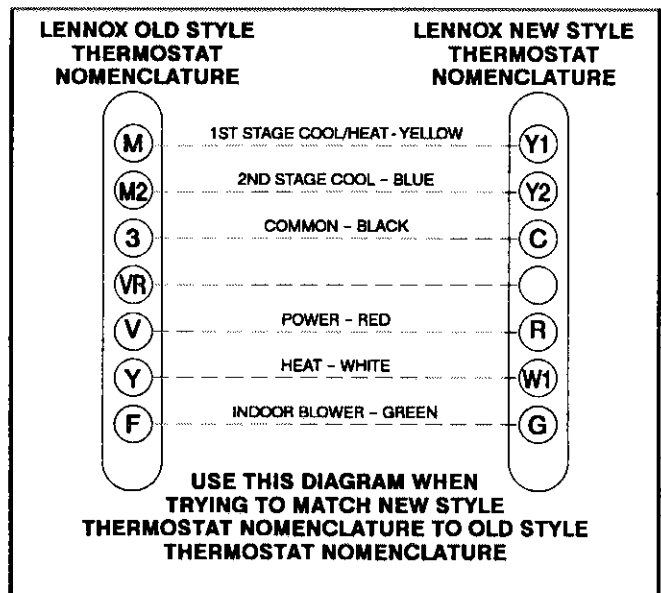

FIGURE 34
- 3- Install room thermostat according to instructions provided with thermostat. See figure 34 for new Lennox thermostat nomenclature versus old style nomenclature.